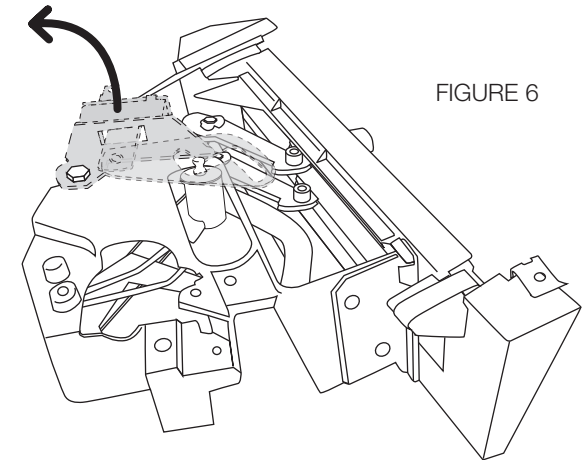

FIGURE 6
1) Remove the control cables, the original blower switch (and it's accompanying bracket) and set aside. These will not be reused, but retain the OEM screw, it will be reused (see figure 6).